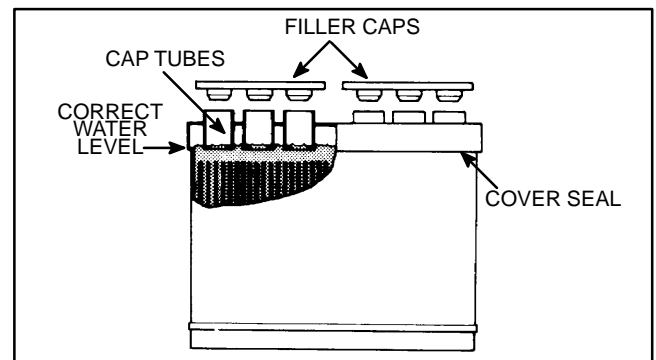

Figure 12
F. Apply a test load of one half the Cranking Performance rating (see Fig. 12) of the battery for 15 seconds.